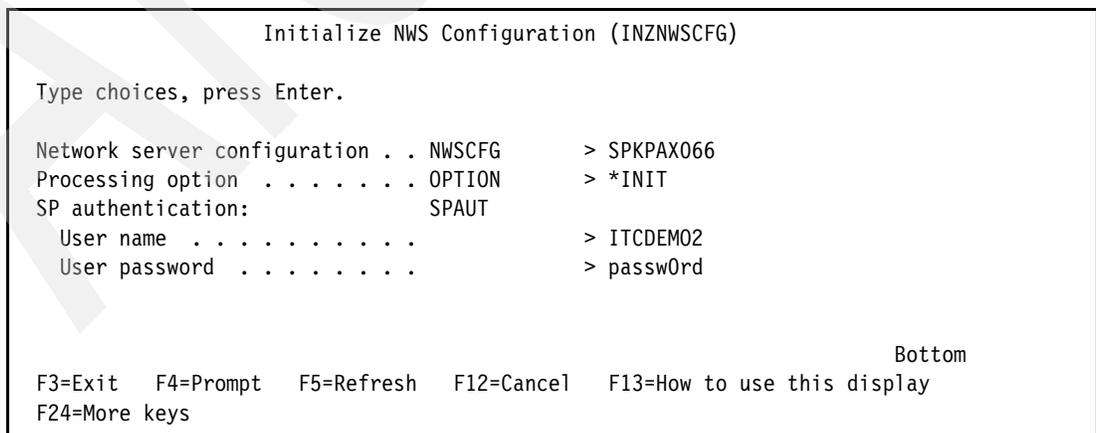

Figure 6-27 INZNWSCFG command with option *INIT
1. On a 5250 command line, type `INZNWSCFG` and press Enter or F4-prompt. The Initialize NWS Configuration (INZNWSCFG) display appears (Figure 6-27).